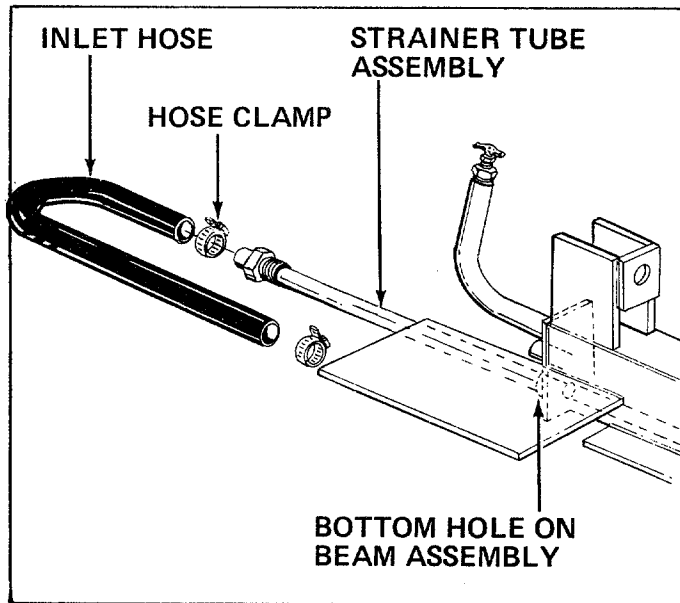

FIGURE 15
1. Remove the hose clamp at inlet hose (bottom hose in rear of beam). See figure 15.
2. Pull off inlet hose from strainer tube assembly and catch oil in a suitable container. See figure 15.
3. With an adjustable wrench remove the strainer tube assembly. See figure 15.